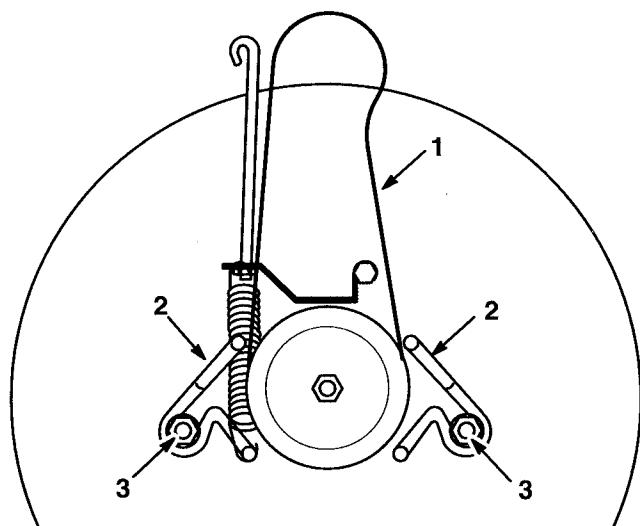

Figure 45
2. Loosen the belt guide mounting bolts and move belt guides away from the pulley (Fig. 45).
1. Install the new belt around the blade pulley and inside both belt guides (Fig. 45).
2. Adjust the belt guides so they are $1/8"$ away from the pulley and tighten mounting bolts (Fig. 45).